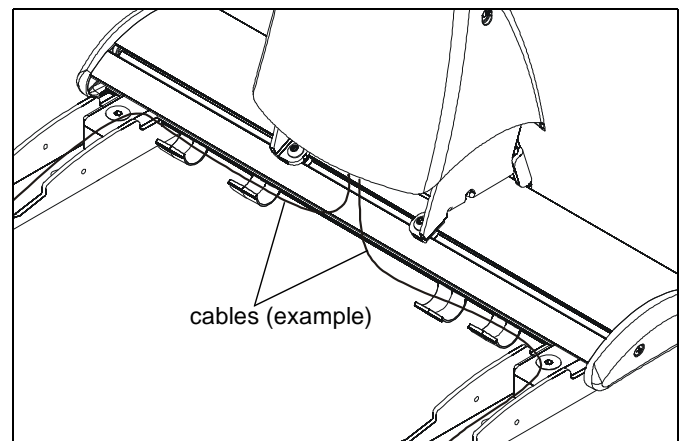

Figure 23
5. Thread cable up wall bracket channel and into opened cable clips. (See Figure 23)